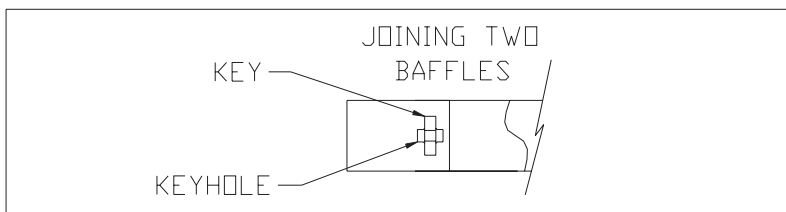

Figure 2.4.2
3. STOP: Before final assembly of the last radiant tube verify baffle length, install baffle in the vertical position and complete final assembly. Figure 2.4.2. The Baffle Specification Chart on this page lists baffle lengths by model numbers. Heater model numbers are located on the rating label attached to the heater control box.